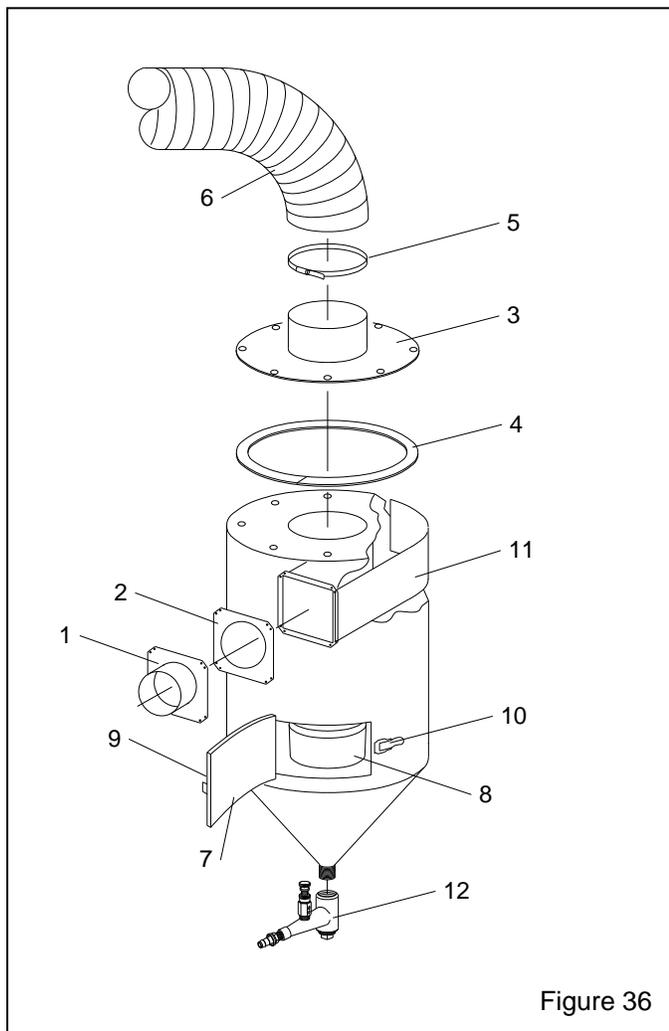

Figure 36
9.9 Reclaimer Assembly for Pulsar III, Figure 36